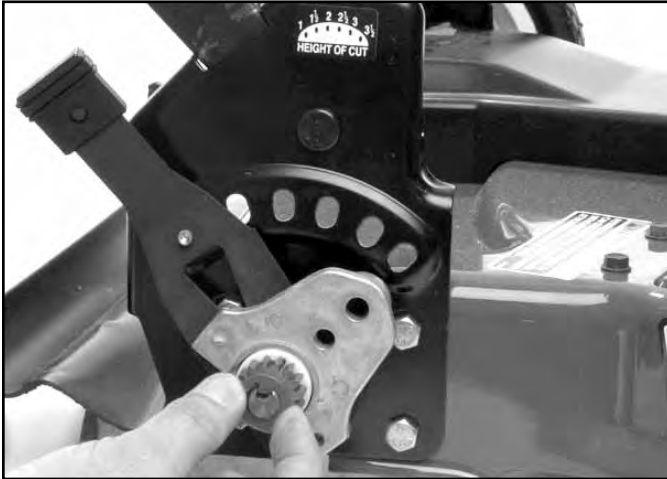

Fig 173
15. Slip the spring onto the end of the output shaft and secure with the special retaining clip. Again, make sure that the center tab fits properly into the keyway to prevent rotation of the clip (Fig. 173).